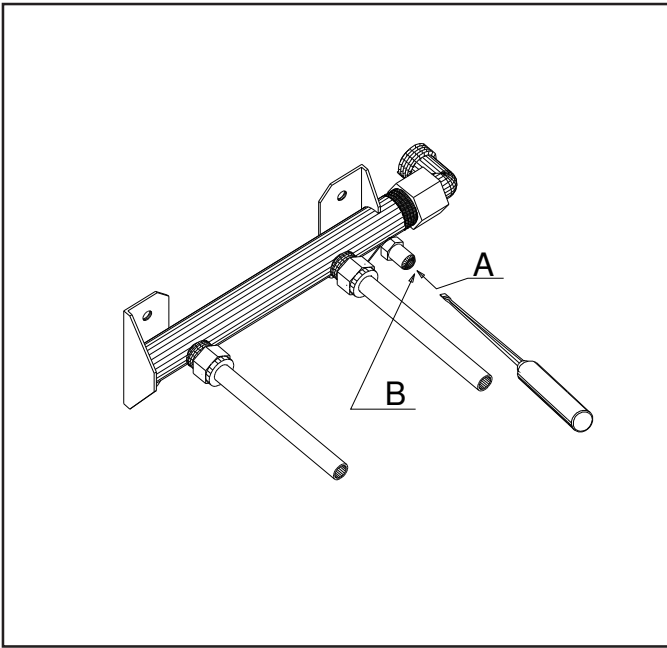

FIG. 1
3.1 CHECKING THE SUPPLY PRESSURE (Fig.1)